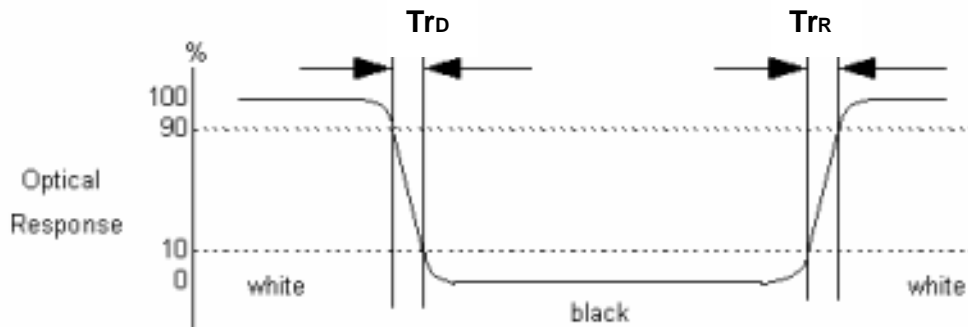

Fig.4-3 Response time
4. Response time is the time required for the display to transition from white(L255) to black(L0) (Decay Time,  $T_{rD} = T_f$ ) and from black(L0) to white(L255) (Rise Time,  $T_{rR} = T_r$ ). The response time interval is between the 10% and 90% of 1st frame amplitudes. For additional information see FIG 4-3.